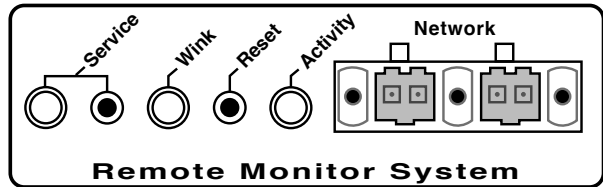

Figure 4.3: The RMS user panel
The RMS section of the user panel has three LEDs and two buttons (Figure 4.3).
**NOTE:** The LEDs and buttons on the user panel of the RMS communication board shown in Figure 4.3 are used exclusively by RMS, and have no effect on the acoustical and/or electrical activity of the MILO 120 loudspeaker itself – unless MUTE or SOLO is enabled at the board and from the RMS software.